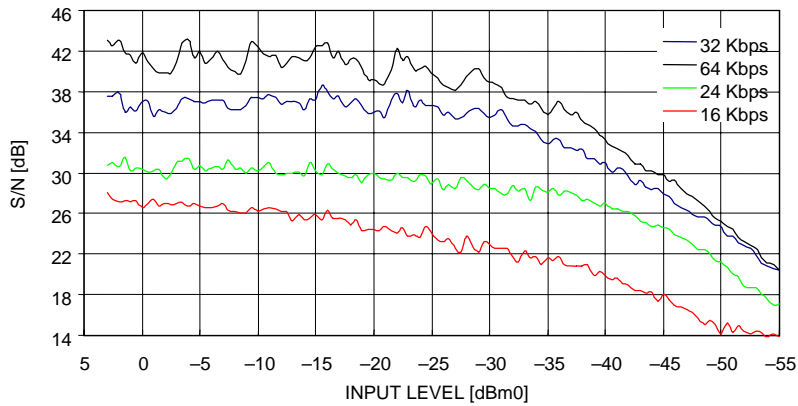

Figure 4 ANALOG LOOPBACK S/N characteristic (at 8 kHz sampling)
- Evaluation data Figures 4 to 6